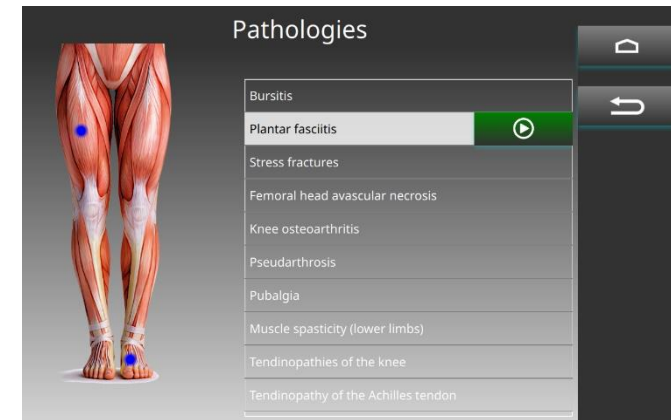

fig.11
3. A screen appears containing the zoom of the selected treatment area in which the possible anatomical areas and the list of treatments associated with that area are highlighted with blue dots (Figure 11);